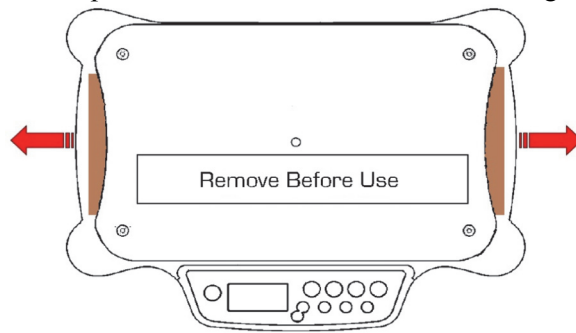

Figure 3-2. Angular Transport Tab Location
- Remove the two angular transport tabs from the scale as shown in Figure 3-2.